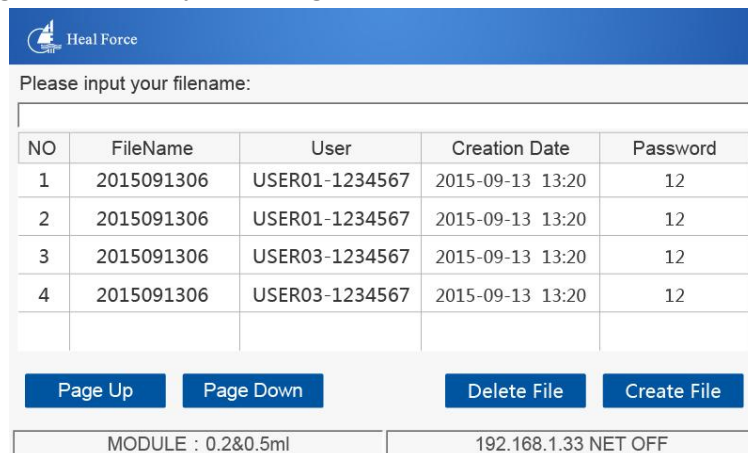
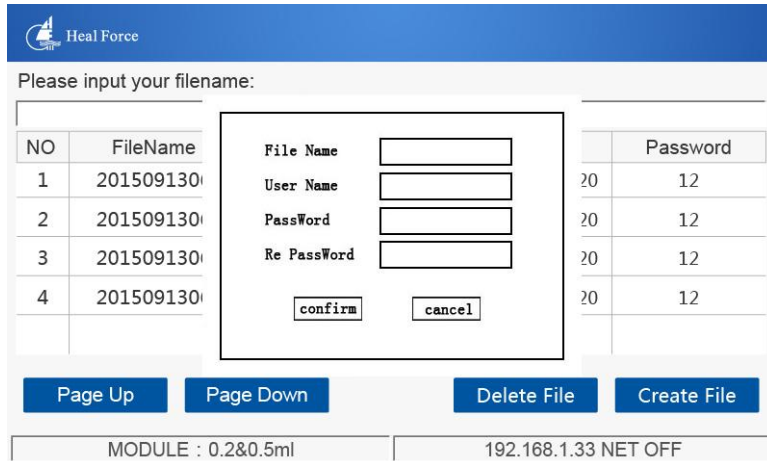

Figure 4-2
Figure 4-3
Step 1: Open the "File" menu ,then input the file name, to search the file that you want to use (Figure 4-2). Also, you can click the "Create File" key, then input the file name and password (If you need), click the "Confirm" key to confirm after closing the small keyboard(Figure 4-3).